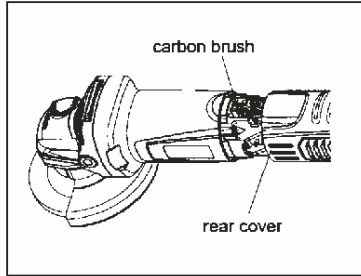

Fig8
2. Both carbon brushes should be replaced at the same time. Use only IDEAL brushes provided. Pull down the rear cover after the screw in the rear cover was loosen by a screwdriver, then replace the brush. (Fig 8)